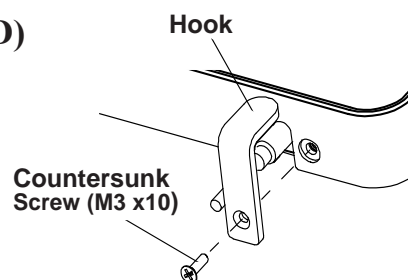

Fig.3-25 Installation of Hook for Hand exposure Switch
6. Place the hook next to the hand switch cord on the bottom of front cover and attach it with countersunk screw (M3 x 10mm) supplied with hook. (Fig.3-25)